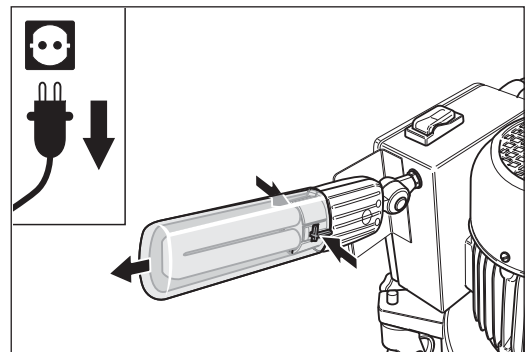

Fig. 81 Press the two clips on the fixture housing together and then remove the fluorescent tube **carefully**.
- 4 On the plastic fixture housing of the working light, press the two clips together that hold the fluorescent tube and then remove the fluorescent tube carefully (Fig. 81).